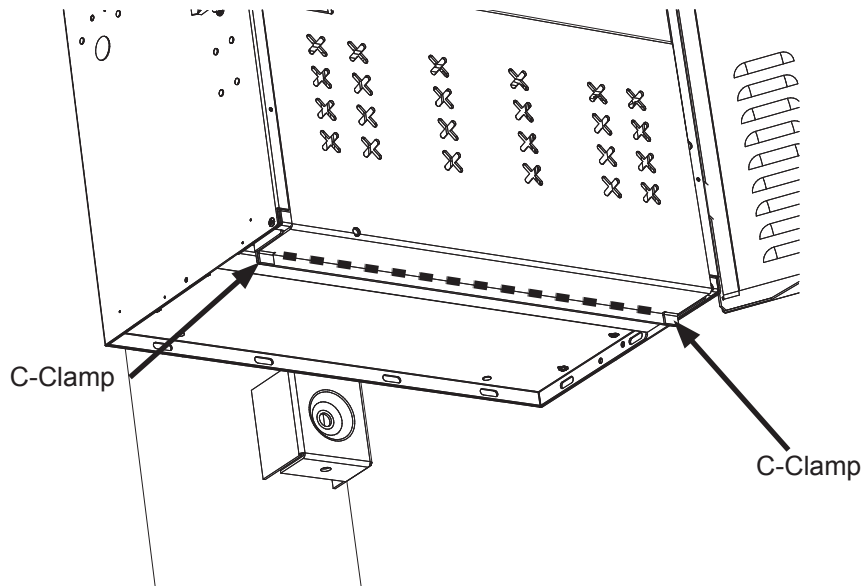

Fig. 4, Welding Seam
8. Use the two clamps to stabilize the weld bracket and shield. Weld a continuous bead along the seam of the shield and the weld-bracket (See the dotted line Fig. 4 for the welding seam).